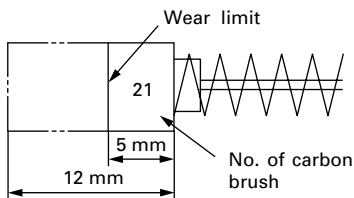

Fig. 6
2. Inspecting the carbon brushes (Fig. 6)